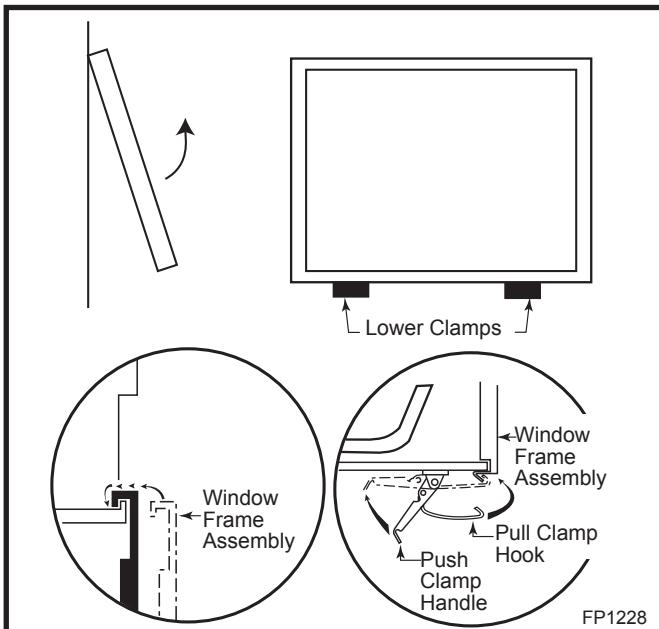

Fig. 62 Window frame assembly removal.
- Release the two clamps securing the lower edge of the window frame assembly by pulling down on the handles. (Fig. 62)
Separate the ember material into small pieces, roughly 1/2" in diameter and place on the front burner tube. Do NOT pack down, leave in fluffy, loose condition for most realistic ember effect. (Fig. 62)